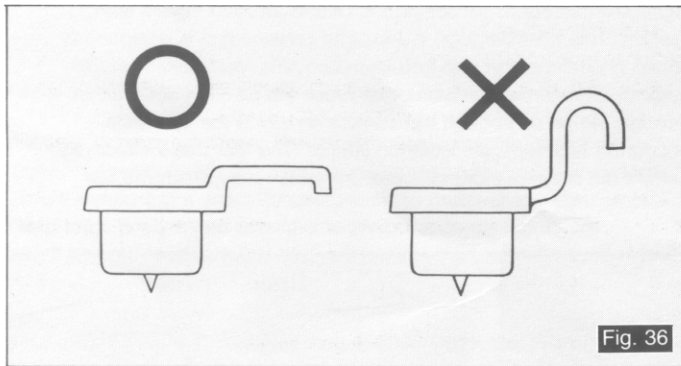

Fig. 36
③ When using other headshells, make sure about the headshell configuration. (See Fig. 36).